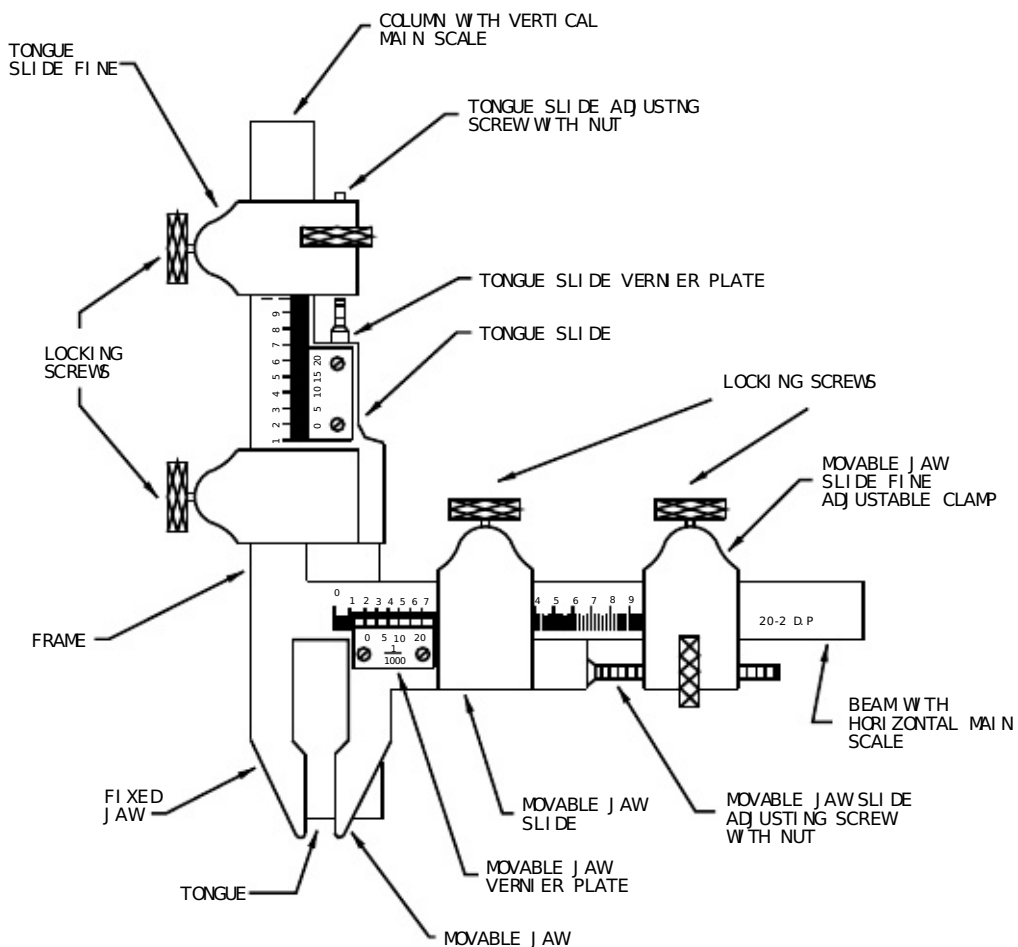

Figure 5.
4.2 TYPE II TI, GEAR TOOTH VERNIER CALIBRATION: (Refer to Figures 5 and 6)